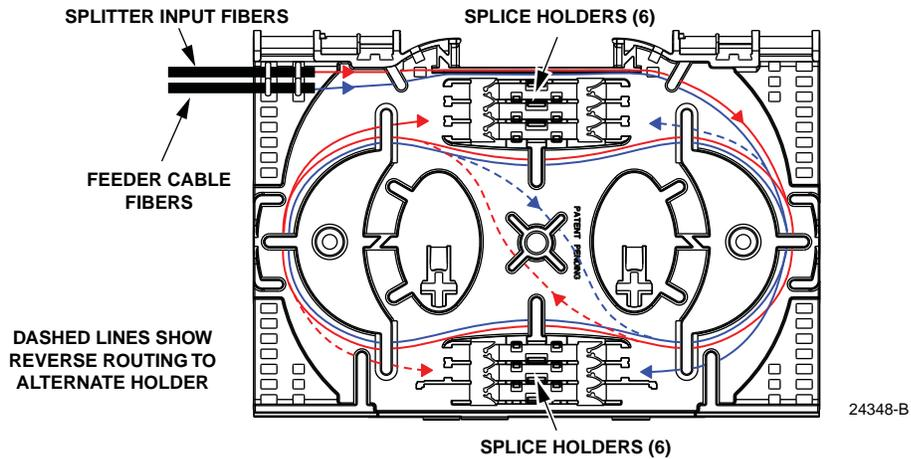

Figure 22. Splicing Stranded Feeder Cable
- Adjust and route the individual fibers within the splice tray as each splice is completed as shown in Figure 22.